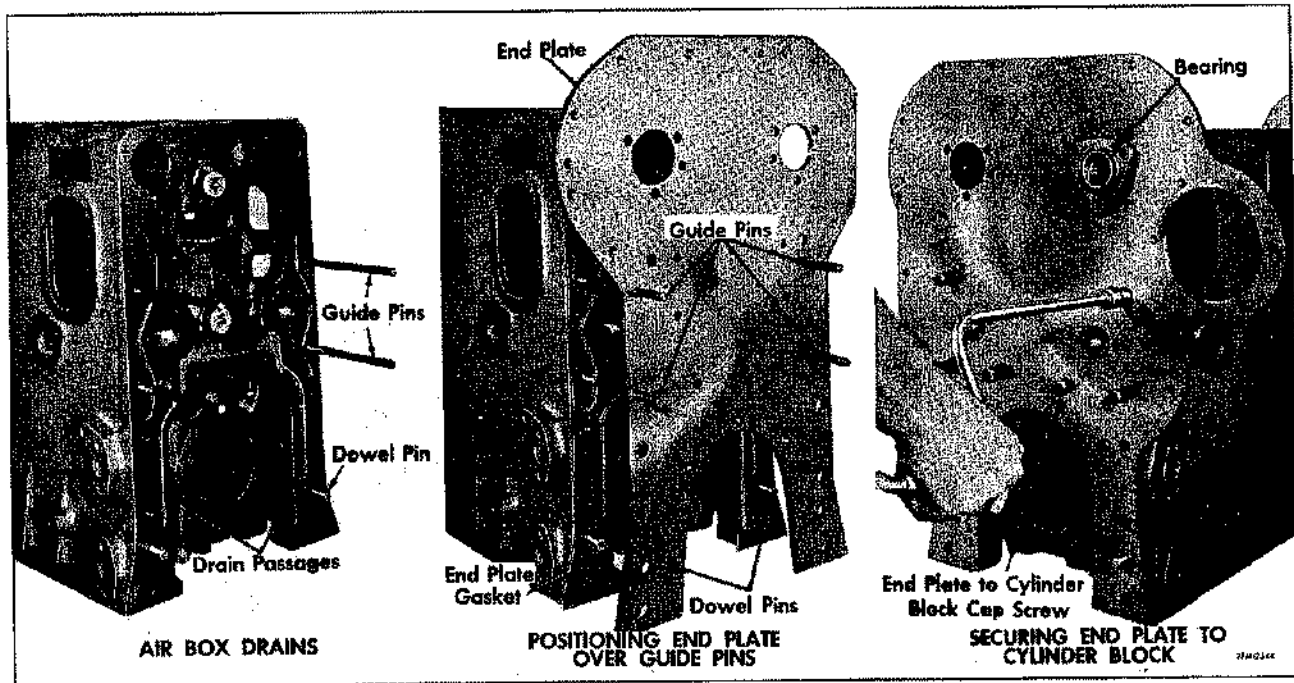

Figure 7—Cylinder Block End Plate Installation
The holes in the end plates for cam and balancer shaft bearing cages are not the same size. The smaller hole is accurately machined to 2.1885" diameter while larger hole measures 2 1/4" diameter. When installing end plates, the smaller hole must be accurately aligned with the bearing bore in cylinder block before end plate attaching bolts are tightened. The smaller hole in front end plate should be on same side of cylinder block as the smaller hole in the rear end plate. Installation may be properly accomplished by referring to figure 7 and proceeding as follows:
block dowels are in place (fig. 7). Four guide studs made locally ($\frac{1}{2}$ "-13 x 6") with screwdriver slot in end, such as shown in figure 7 will be found essential when locating the plates on the cylinder block.
4. Temporarily install bearing (fig. 7) through the smaller of the two cam and balancer shaft holes in end plate to align plate with block. Start six attaching bolts into place and draw up only finger tight. **BE SURE REAR PLATE** is installed with blower drive support bore on blower side of block, also that **SMALL CAM OR BALANCE BEARING HOLE** in front and rear plates are both on same side.